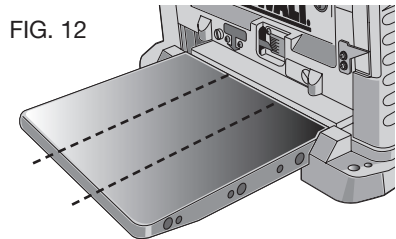

FIG. 12
**NOTE:** There is a certain area on the carriage of your planer that will allow the 1/8" (3.2 mm) depth of cut on material less than 6" (152.4 mm) wide. See Figure 12 for an approximate location of this area. Your material must move under this section of the carriage or planer will not take a 1/8" (3.2 mm) depth of cut. If the material is wider than 6" (152.4 mm), it will not fit through this area with an 1/8" depth cut.